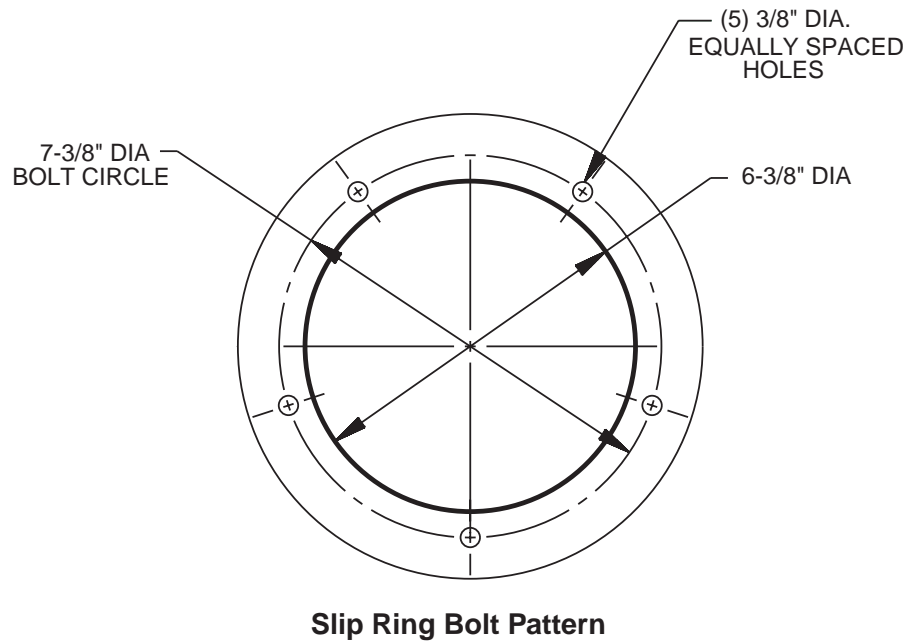

Figure 10
2. Fasten the slip ring to the ceiling with five 5/16" diameter screws (supplied by installer) (see Figure 10 for screw location dimensions).